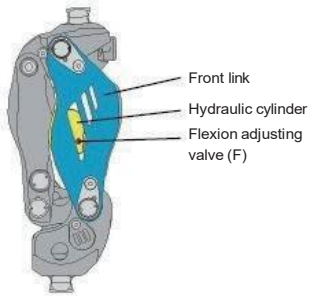
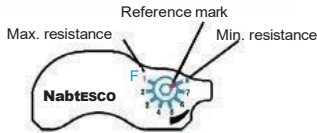

Fig. 11 Location of the Flexion Adjusting Valve
Fig. 12 Graduated Scale of the Flexion Adjusting Valve
At first, adjust the flexion resistance. As shown in Fig. 11, the flexion adjusting valve (F) is located on the right when viewed from the user. As shown in Fig. 12, the scale is graduated from "1" to "8". "1" corresponds to the highest hydraulic resistance, and "8" corresponds to the lowest.